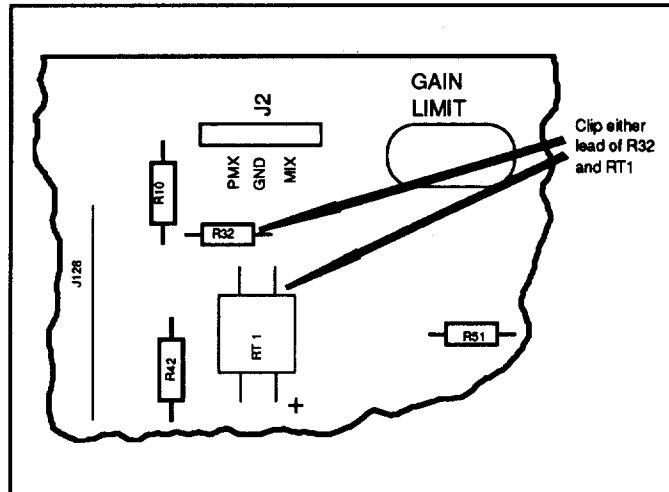

Figure 9: *Dummy Mic* Modification on Input Module.
2. Remove that input module from the chassis and locate R32 and RT1. Refer to Figure 9. Remove that channel from the audio mix by cutting either lead of both R32 and RT1. Do not cut the lead of the LED portion of RT1.